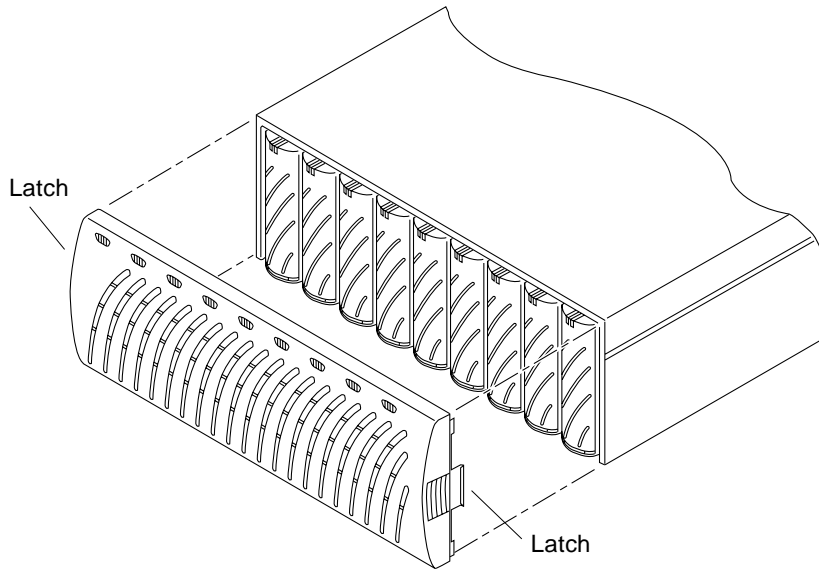

FIGURE 2-1 Removing the Front Panel
4. Remove the front panel of the disk tray by pressing in on the side latches and pulling the cover off (FIGURE 2-1).